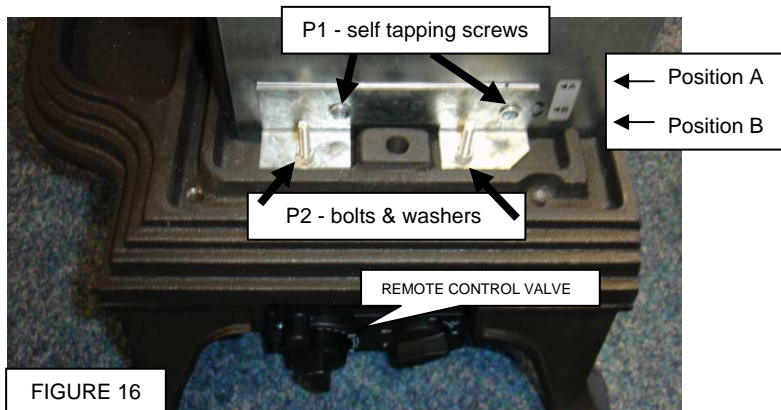

FIGURE 16
- 5 Fix the supplied brackets (2off) to the side of the balanced flue burner box, using the self tapping screws provided. See Fig. 16 - P1. There are different bracket positions depending on the model. Position 'A' is for The Lincoln and The Stamford, Position B is for The Canterbury. Once the two brackets have been screwed to the side of the burner assembly, lift the burner assembly onto the base casting, locating the brackets with the four holes in the base casting. Use the 4 off bolts and washers provided to secure the burner assembly to the base casting. See Fig. 16 - P2. below.